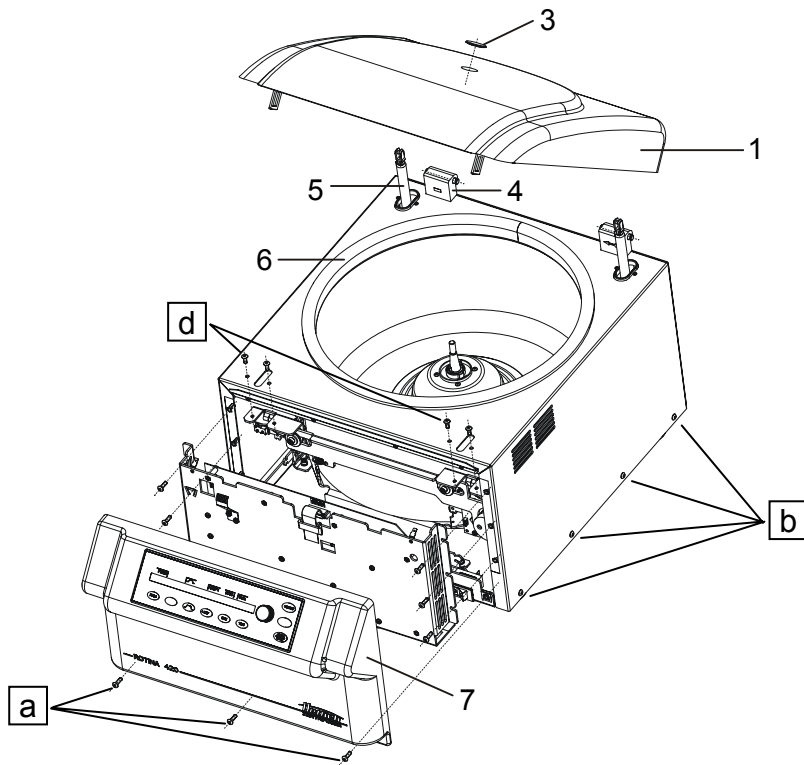
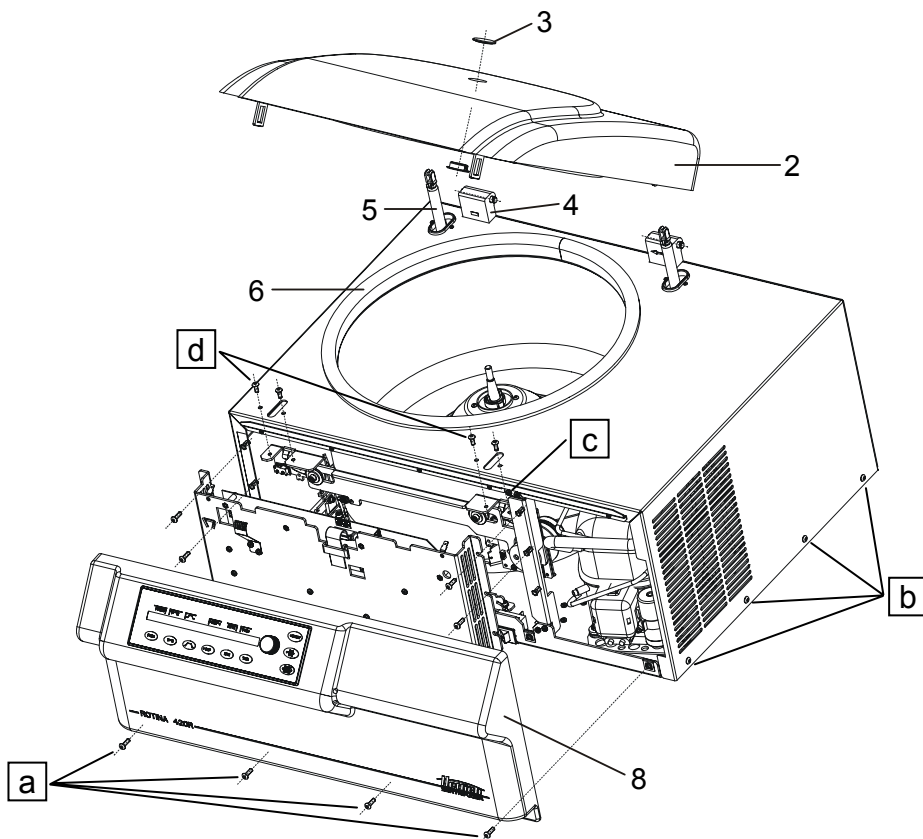

Fig. 2
Fig. 4
- Undo the screws (pg. 77, Fig. 2, a ; pg. 78, Fig. 4, a) on the lower part of the front panel.
- Unscrew the fastening screws of the upper part of the centrifuge housing. 4 screws (pg. 77, Fig. 2, b ; pg. 78, Fig. 4, b) each on the left and right side of the upper part of the housing, 6 screws on its rear. In centrifuges with cooling, unscrew the two screws (pg. 78, Fig. 4, c) on the front of the upper part of the centrifuge housing.
- Unscrew the two screws (pg. 77, Fig. 2, d ; pg. 78, Fig. 4, d) each on the left and right lid lock on the upper part of the centrifuge housing and remove the lid lock.